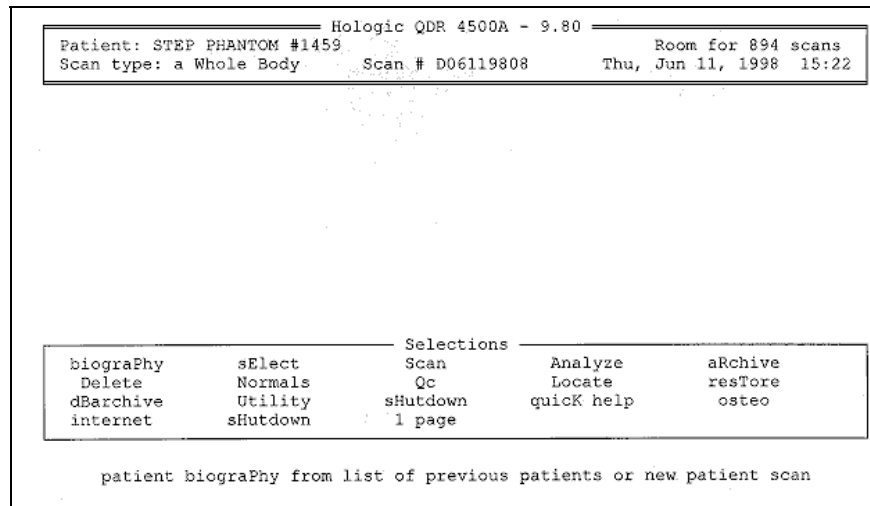

Figure 3-4. Hologic selections screen: whole body scan
- Go to the Hologic 'Selections' screen (Figure 3-4).
- Press Esc to return to the Hologic Selections screen. (see Figure 3-4).